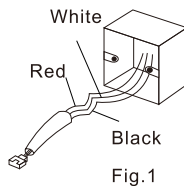

Fig.1
1. As shown in Fig.1, after cutting off the wiring (female end is the connecting end of wire controller), connect the wires to the corresponding lines of embedded lines according to colors (red - communication line, white - power line, black - G N D line).